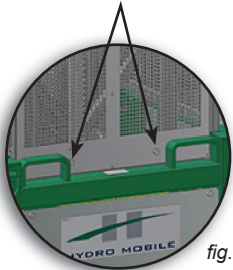

fig. 9.14
- 2- Loosen the bolts holding the rear mast guard in place (fig. 9.14, p. 110).